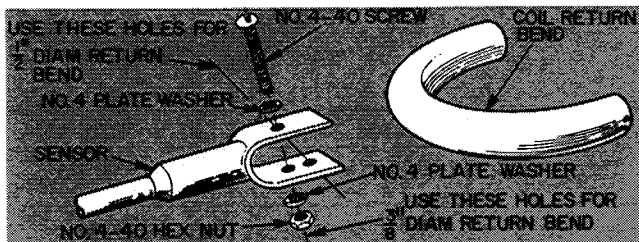

Fig. 2 — Sensor Installation
The Motormaster control consists of a solid-state circuit on a printed circuit board encased in an aluminum extrusion. The control must be fastened to a panel on the unit, and the sensor assembly (Fig. 1) mounted to a return bend on the unit's condensing coil (Fig. 2). A wire from the sensor is connected to the circuit board control box with wire nuts.
**Mounting Sensor** — Mount sensor on a condenser coil return bend as shown in Fig. 2.
3. Secure sensor on coil return bend with no. 4-40 screw, 2 plate washers and nut (supplied) as shown in Fig. 2.